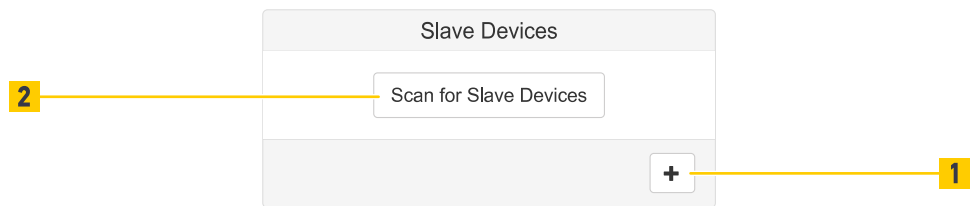

Fig. 92: Slave devices
- To manually add a slave device click the plus button (Fig. 92 /1).
- To find slave devices automatically scan for slave devices by clicking the Scan for Slave Devices button (Fig. 92 /2).